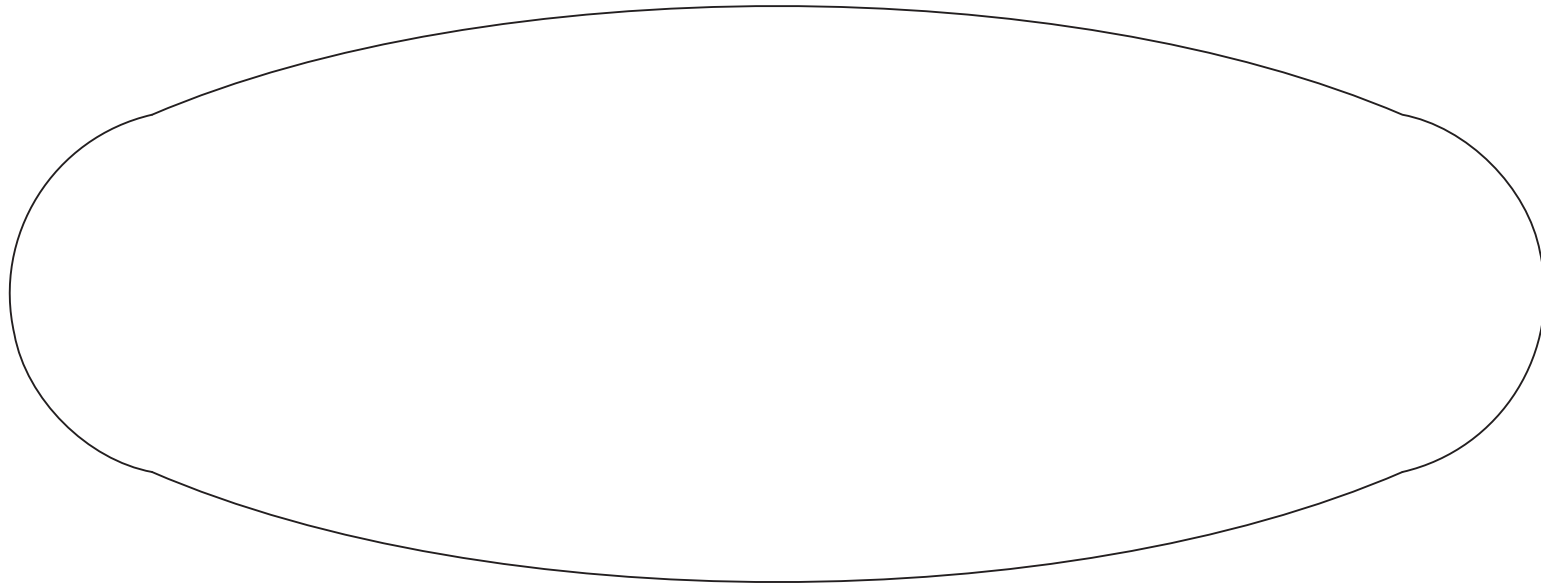

FIGURE 2
2. The pattern should be partially overlapped (see Figure 2).